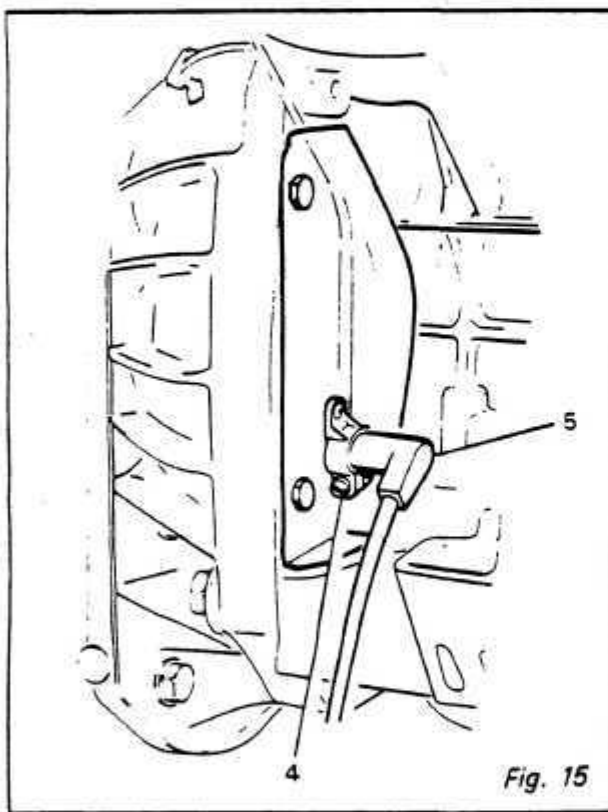

Fig. 15
4. Remove Screw (4), holding Pick-Up (5) and remove. *Fig. 15*